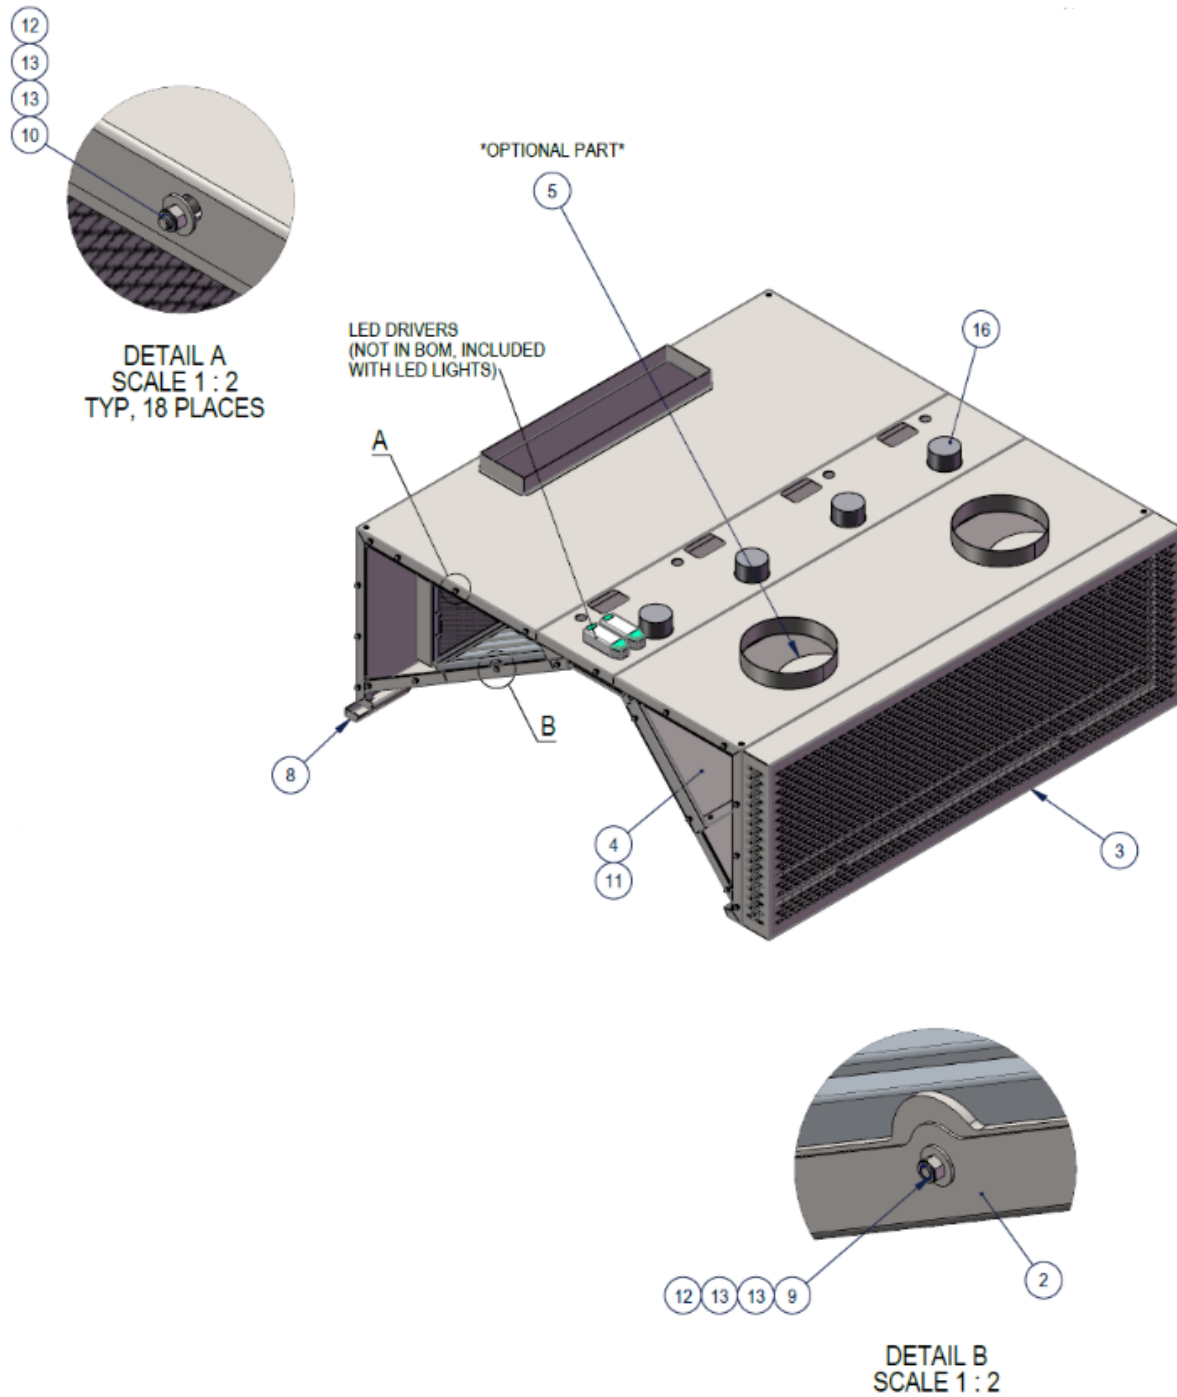

Figure 4 3D centre module details
- Bolt ends to hoods and seal joins make sure that all bolt fixing points as seen in SECTION C-C are fitted securely. Nut and washer to the one side as in DETAIL A and B in Figure 4 and locations in Figure 6. There are 19 bolts required per module join (M5X20MM). See more detail in section 3.5 Joining Modules.
- Skip this point if the front perforated panel labeled 3 in is already attached. These panels (2001A) can be fitted before or after lifting. If the front perforated panel is not attached see detail D in Figure 4 and also 9. OPERATION AND MAINTENANCE. The front panel attaches at 6 points with assembly (0006) including 6 x bosses and 12 x bolts. Bosses are fitted tight to the hood section through the makeup air access panel (2007C). Front facing screws are left loose for keyhole fittings and final tightening is made with an Allen key through the front perforations.
- Install the remaining bolts as in DETAIL A and B in Figure 4 and make sure they are all fully tight.